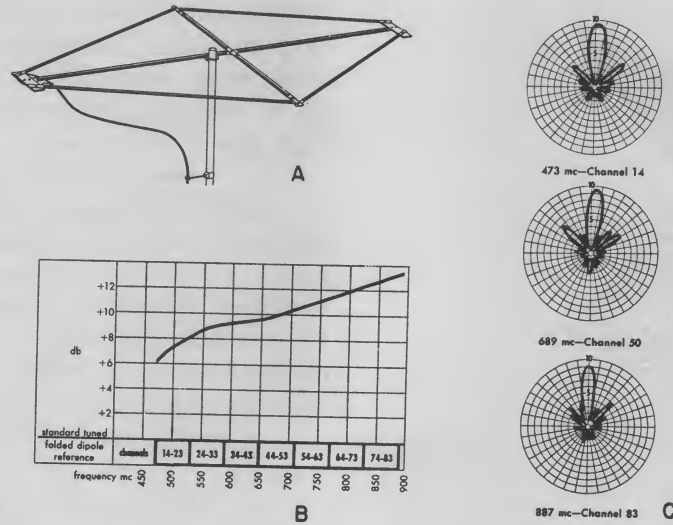

Fig. 11-4. Rhombic antenna: (A) rhombic; (B) gain chart; (C) horizontal directivity pattern. Courtesy Amphenol.
d. *The Rhombic* (Fig. 11-4). This is a broadband high-gain antenna with very narrow beamwidth in the major forward lobe. Some minor lobes do exist, but the front-to-back ratio is good. A terminating resistor is used on the forward end of the array. This antenna requires more than normal horizontal space, but it greatly attenuates ground reflections.